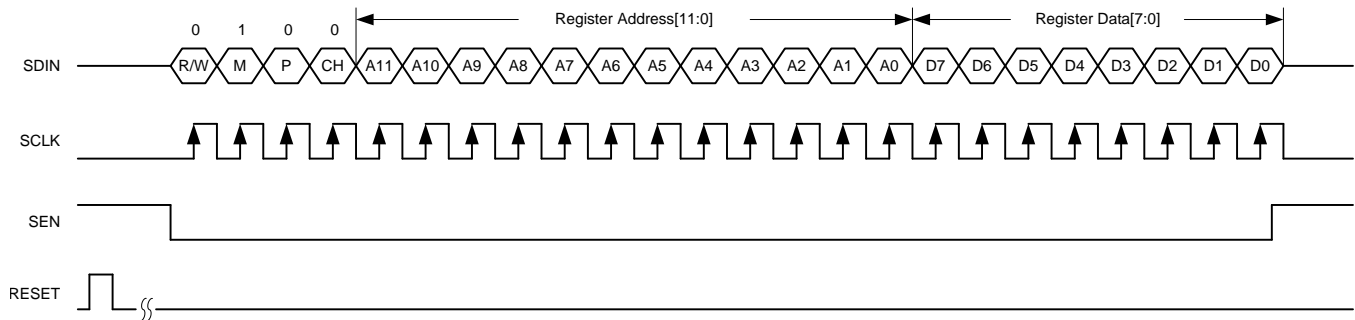

Figure 75. SPI Page Selection
2. Set the M bit to 1 and specify the page with two register writes. Note that the P bit must be set to 0, as shown in Figure 75.